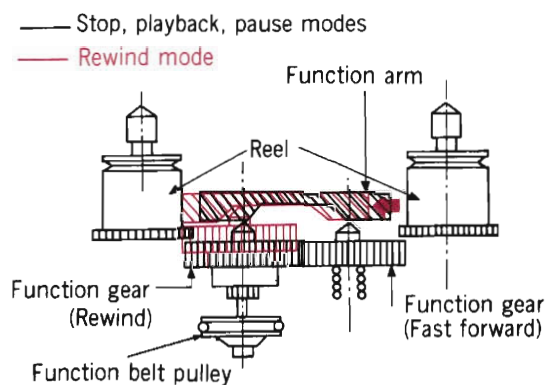
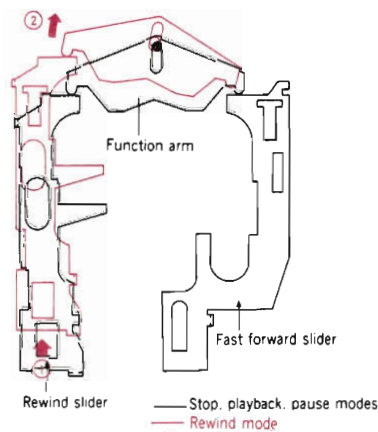

Fig. 11
Fig. 12
Under the stop condition, the function gear, reel and the function arm are under the mode shown in black in Fig. 11; when the rewind button is depressed, the rewind slider slides in the direction of arrow ① as shown in Fig. 12, and the function arm rotates in the direction of arrow ② with one end of the fast forward slider as the fulcrum. When the function arm is inclined, the surface where the function arm and the tip of the shaft of the function gear (Rewind) contact becomes convex as shown in color in Fig. 11, and the function gear (Rewind) rises and engages with the supply reel, and it is then in the rewind mode.